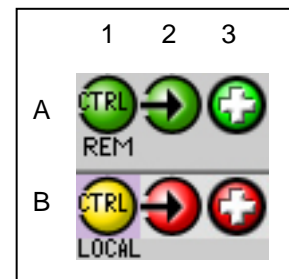

Figure 3.3 Status icons
1. The Status Icon area shows a series of six icons that report the status of some card parameters. Figure 3.3 shows the various forms that may appear; their meaning is described below.